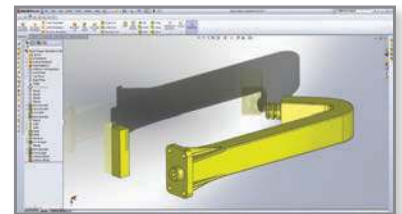

Figure 5: Original CAD model of robot gripper arm with reference feature at the origin (0, 0, 0).
STEP 1: Open the CAD model to be produced with variable densities (Figure 5).